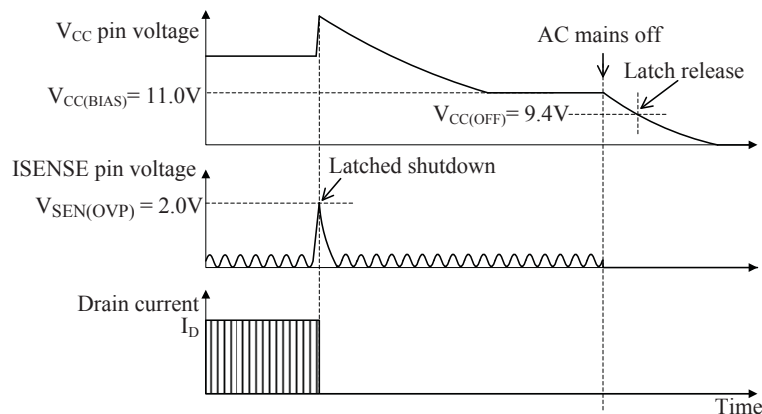

Figure 21. Waveforms when ISENSE pin OVP function is being activated
• ISENSE Pin Overvoltage Protection. Figure 21 shows the waveform of the OVP function on the ISENSE pin. When the ISENSE pin voltage with reference to the S/GND pin reaches  $V_{SEN(OVP)} = 2.0\text{ V}$  or more, OVP is activated, and the IC stops switching operation in latch mode. This input voltage must be less than the absolute maximum rating, 5 V.